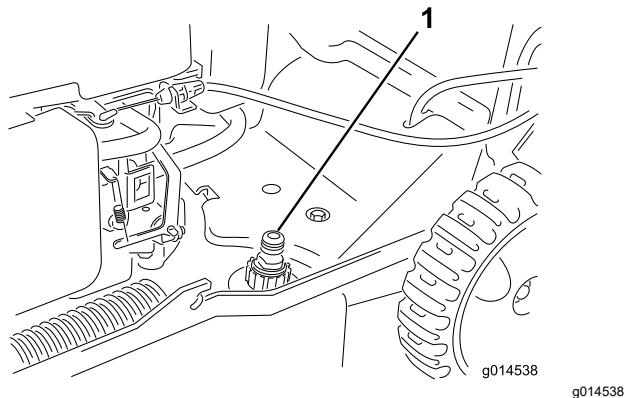

Figure 21
3. Attach a garden hose that is connected to a water supply to the washout port (Figure 21).